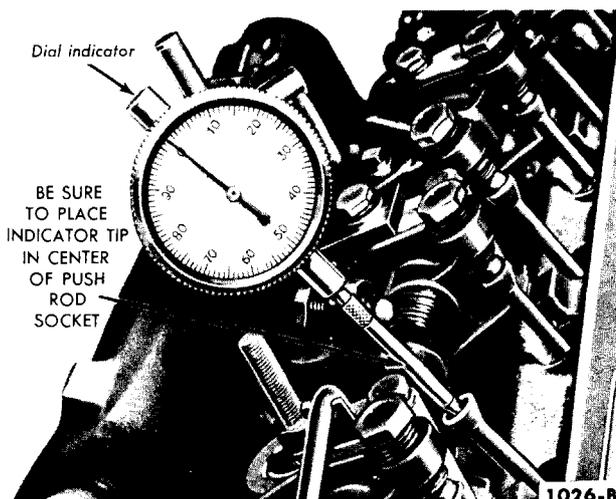

FIG. 1—Camshaft Lobe Lift—Mileage Maker Six or Thunderbird 292 V-8
2. Make sure the push rod is in the tappet socket or the lifter push rod cup, then install a dial indicator in such a manner as to have the actuating point of the indicator in the push rod socket and in the same plane as the push rod movement (Fig. 1 or 2).